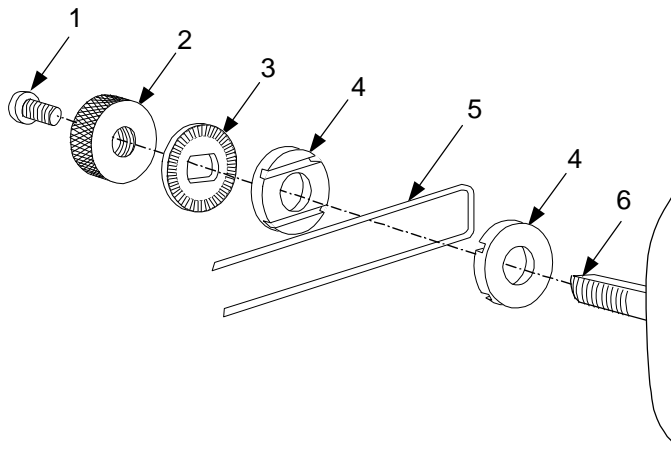

Figure 3-14. Boom Assembly and Mounting Hardware
1. Compress closed end of windscreen (3) and place inside O-ring (2) until O-ring (2) is midway on windscreen (3).
2. Slide O-ring (2)/windscreen (3) onto microphone (1) and adjust O-ring (2) until windscreen (3) is secured.
3.8.4. Boom Assembly/Mounting Hardware Removal and Replacement (Fig. 3-14)